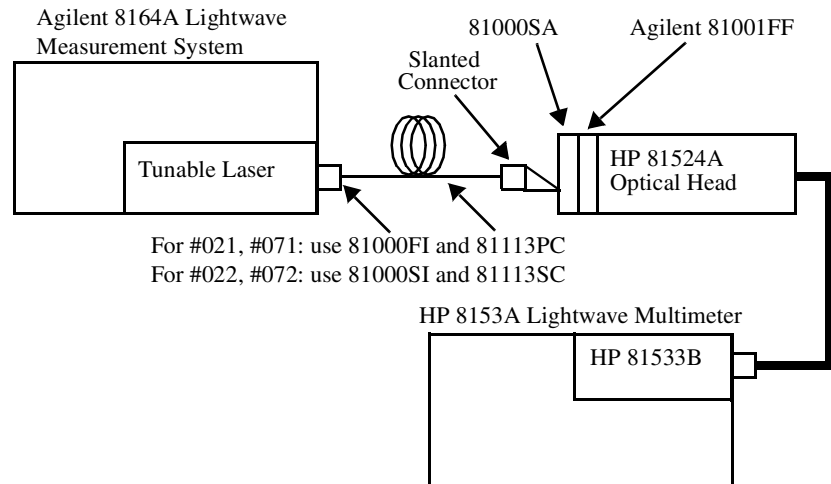

Figure 19 Test Setup for Calibrating the Agilent 81001FF Attenuation Filter
- 8 Attach the Agilent 81001FF Attenuation Filter to the Optical Head as shown in Figure 19. Move the patchcord as little as possible, keeping the laser activated.